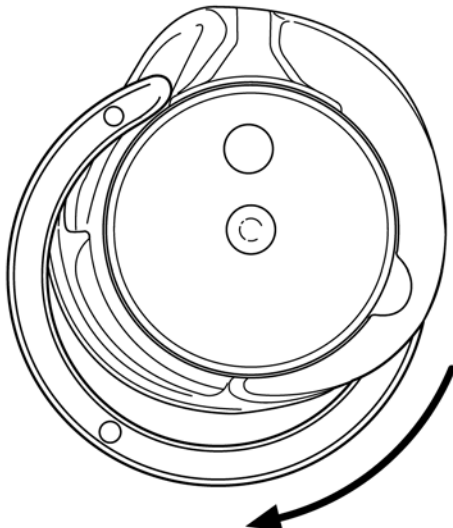

Fig.62
- Turn the sewing hook gib to the left or to the right out of the bobbin case base (fig. 62).